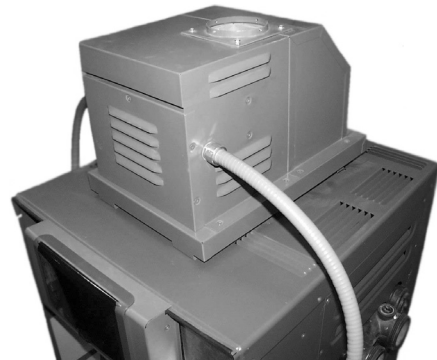

Figure 11. Power Vent Location
9. Place the Power Vent on top of the heater. See Figure 11.